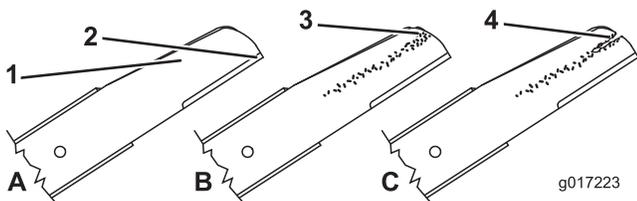

Figure 42
1. Inspect the cutting edges (Figure 42). If the edges are not sharp or have nicks, remove the blades and have them sharpened or replace them.
2. Inspect the blades themselves, especially the curved area (Figure 42). If you notice any damage, wear, or a slot forming in this area, immediately replace it with a new blade.